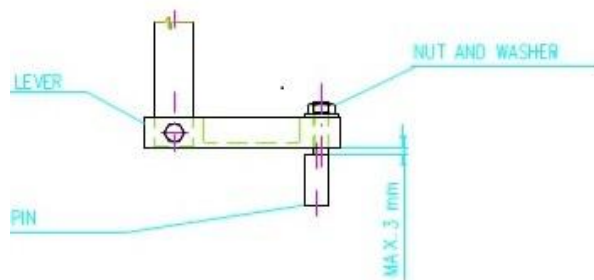

Fig. 4
- c. Unscrew the pin by 1 or 2 complete turns to increase the distance between the shoulder of the pin and the lever., see Fig. 4. This distance must not exceed 3 mm.